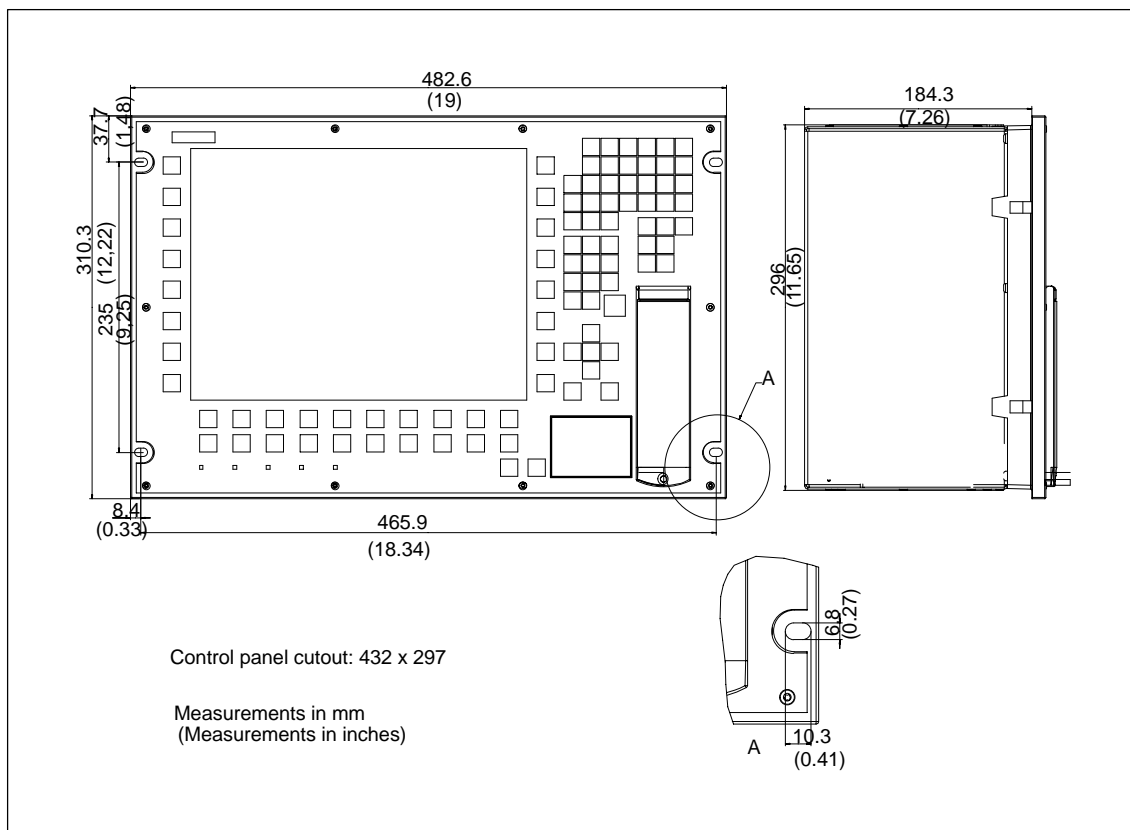

Figure 2-8 Mounting the PC FI 45
- Place the device in the prepared panel cutout (see Figure 2-8) and protect it against falling out until it can be permanently secured.